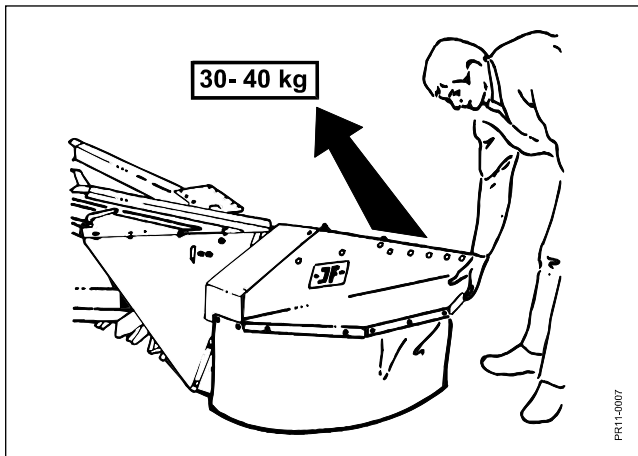

Fig. 2-17
- Fig. 2-17 JF-Fabriken recommends that the relief is adjusted, so that the outer end of the machine can be lifted with force of 30 - 40 kg.